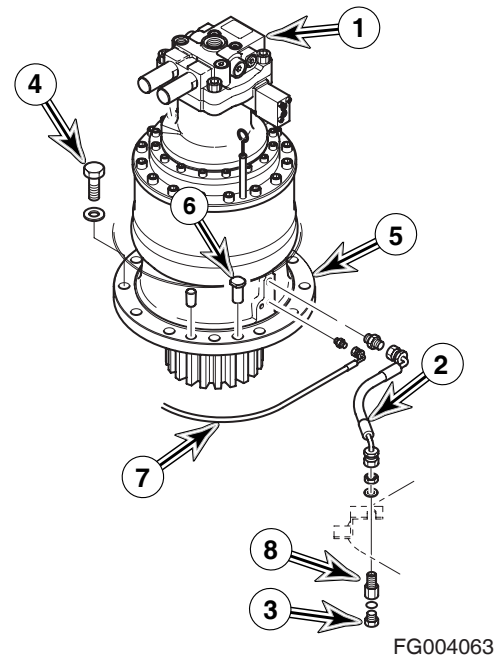

Figure 3
11. Tag and disconnect hoses from swing motor (1, Figure 3). Plug and cap hoses and ports to prevent contamination from entering hydraulic system or component.
12. Remove drain plug (3, Figure 3) from reducer (8) and drain oil from reduction gearbox (5, Figure 3).
13. Reassemble drain plug (3) to reducer (8) and disconnect hose (2, Figure 3) from reduction gearbox (5).
14. Disconnect grease lubrication line (7, Figure 3) from reduction gearbox (5).
15. Remove twelve bolts and washers (4, Figure 3) holding swing reduction gearbox (5) to frame.
16. Using a suitable lifting device, sling swing motor (1, Figure 3) and remove swing motor and reduction gearbox (5) as an assembly from unit.
NOTE: *There are two alignment pins (6, Figure 3), on reduction gearbox flange.*